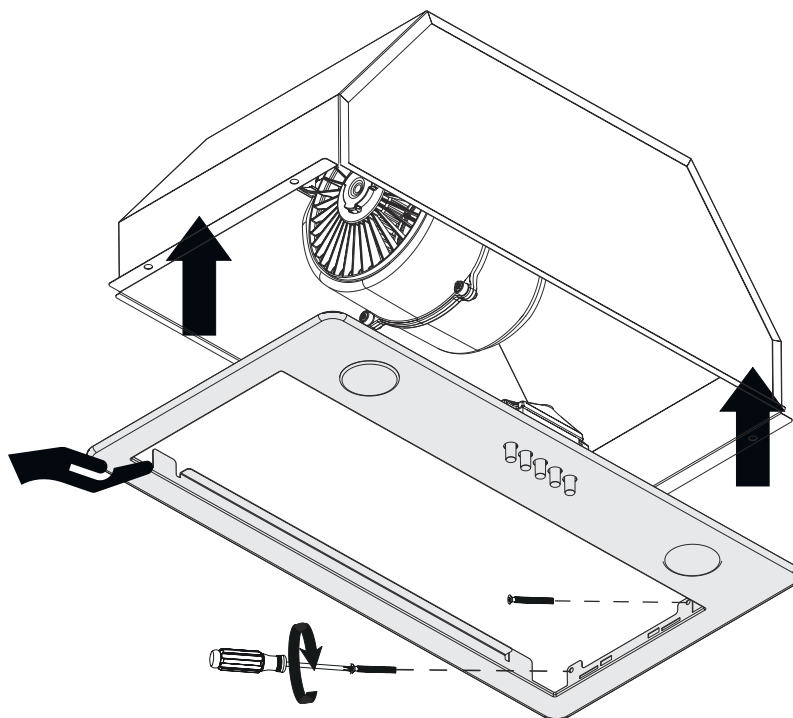

Fig. 18
7. → ■ After installing the hood into the kitchen cabinet, hold the glass with one hand and connect the connectors of the stove lighting lamps and the control panel switch in reverse order.(Fig. 18).
- Insert the glass so that it fits into the grooves on the housing, holding it with one hand; insert the glass mounting screws and tighten them (Fig. 18).